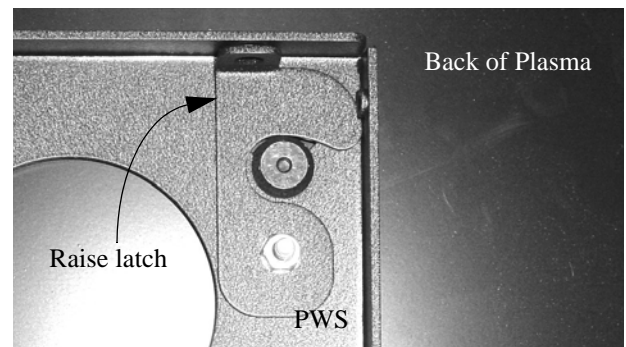

FIGURE 6. RAISE LATCH
4. Secure the display to the PWS by completely engaging the latch (see Figure 6).